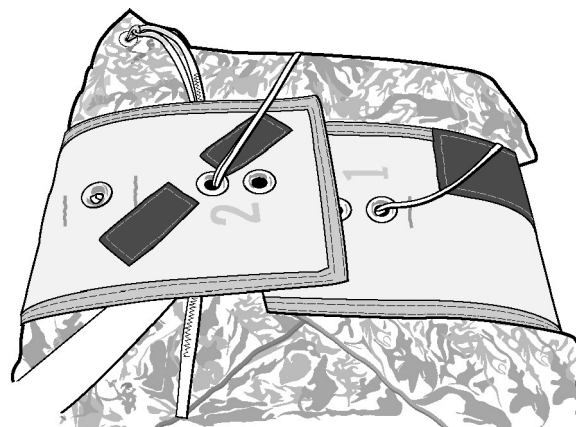

Figure 15. Closing Loop Placement
c. Route pull-up cord of long closing loop through grommet left of center grommet of closing launch flap #2 (Figure 15).